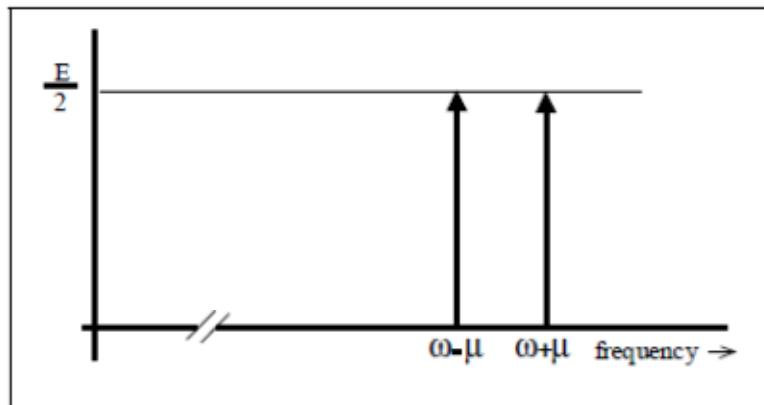

Figure 1: Spectral components
Equation (3) shows that the product is represented by two new signals, one on the sum frequency ($\omega + \mu$), and one on the difference frequency ($\omega - \mu$) - see Figure 1.